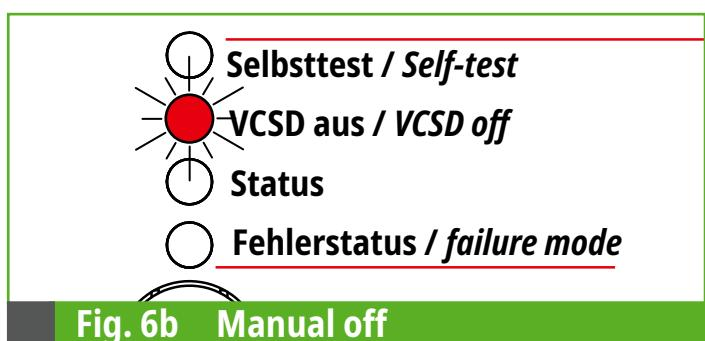

Fig. 6b Manual off
- ➲ It can be activated in all standard operating modes (operational, monitoring and discharge mode). This is displayed on site via the LED (see Fig. 6b).